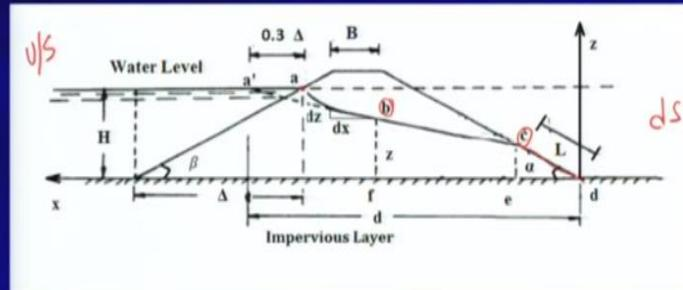

Fig. 36. Flow through an earth dam constructed over an impervious base
- Fig. 36 shows a homogeneous earth dam resting on an impervious base